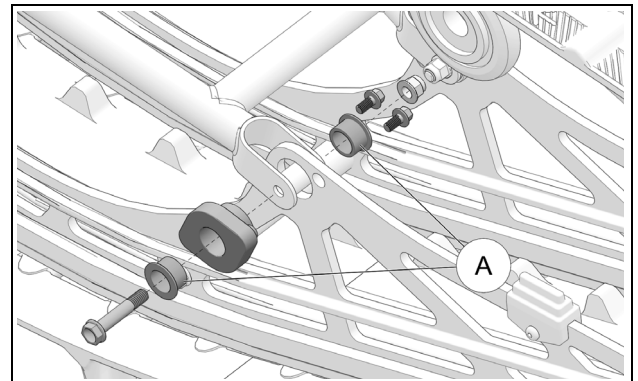
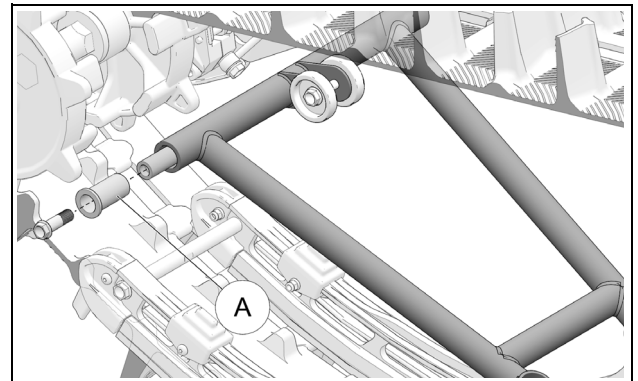
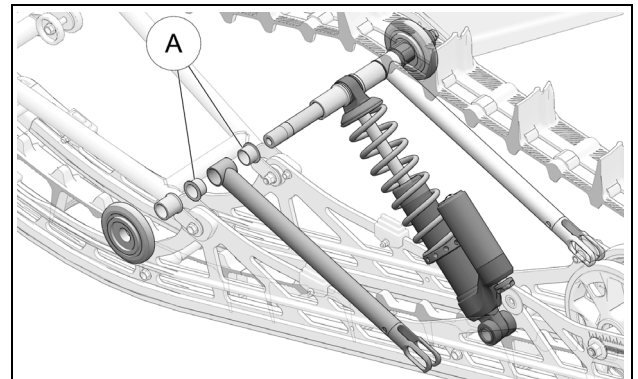

Figure 58
Figure 59
Figure 60
Verify play and extent of wear on the suspension's nylon bushings (A). If there is abnormal play in the bushings, replace them. See Figure 58, Figure 59 and Figure 60.